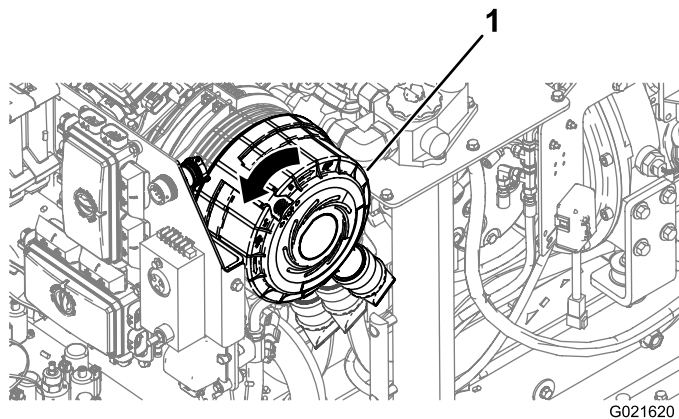

Figure 115
6. Rotate the filter cover counterclockwise so that the dust cap is at the 4 o'clock position (Figure 115).
4. Rotate the air cleaner filter cover clockwise, so that the dust cap is at the 4 o'clock position (Figure 115).
5. Push the latch on the air cleaner filter cover inward until it is fully seated (Figure 115).